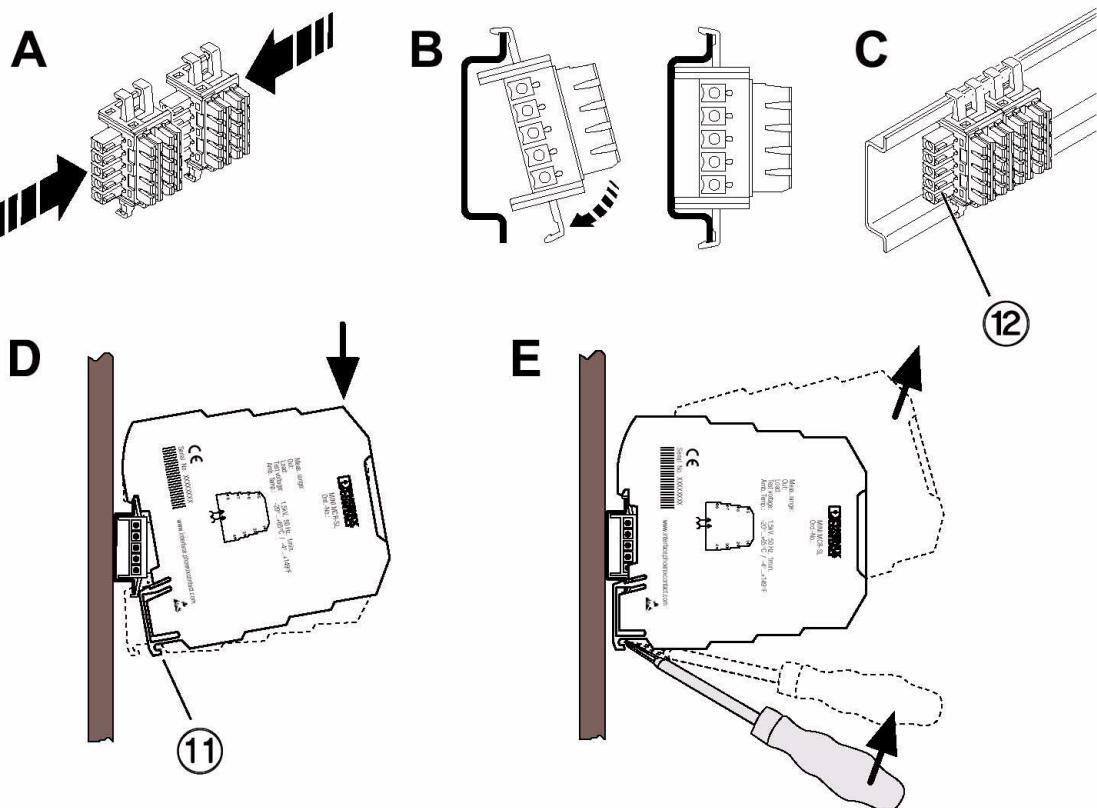

Figure 5 Mounting/removing
Snap-on foot (Figure 5, detail D 11)
below and plug (Figure 5, detail C 12)
- First position the DIN rail connector in the DIN rail to bridge the voltage supply (see Figure 5).